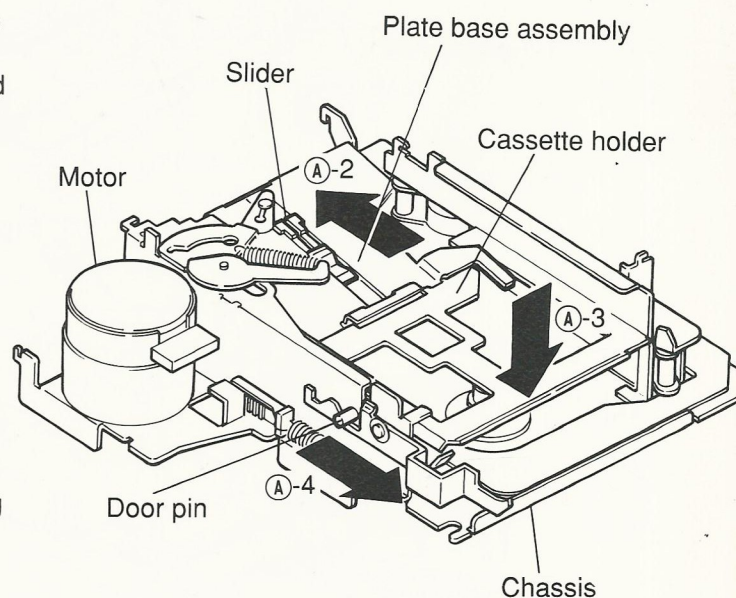

Figure 2
- (5) When remounting the bottom cover, first turn the front of the mechanism up as shown in Figure 2.
- (6) Slide the slider in the direction ①-A-2 as shown in Figure 2.
- (7) Push down the cassette holder in the direction ①-A-3 as shown in Figure 2.
- (8) Pull the door pin in the direction ①-A-4 so that the mechanism is locked in as shown in Figure 2.